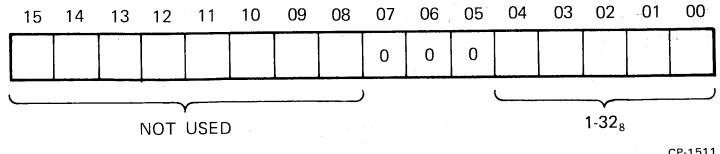

Figure 4-19 RXSA Format (RX11/RXV11)
4.2.2.4 RXSA – RX Sector Address (Figure 4-19) – This register is loaded to indicate on which of the 26 (32_8) sectors a given function is to operate. It can be addressed only under the protocol of the function in progress (Paragraph 4.2.3). Bits 8–15 are unused and are ignored by the control.